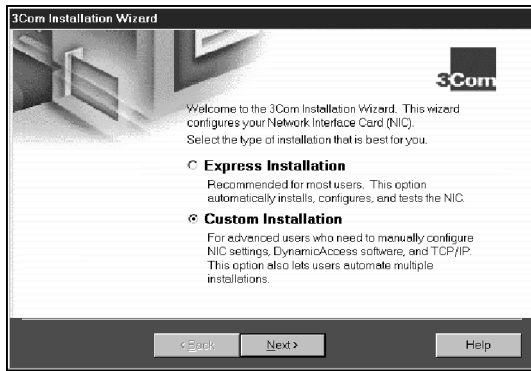

Figure 3-1 Selecting Custom Installation Screen
The first 3Com Installation Wizard screen is shown in Figure 3-1.
- 1 **Select the *Custom Installation* radio button, shown in Figure 3-1.**